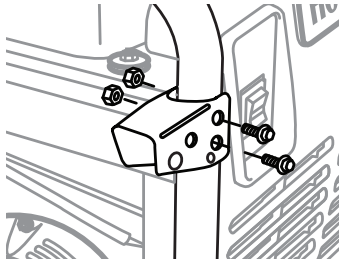

FIGURE 10: Handle Bracket to Frame
- Handle brackets (2)
- Handle bars (2)
- Pins (2)
- Chains (2)
- Rubber handle grips (2)
- M10 x 40 mm long flange-head hex bolts (6)
- M10 serrated flange nuts (6)
1. Hold handle bracket over pre-drilled holes on frame as shown in Figure 10.